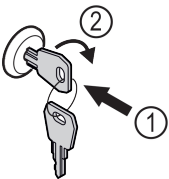

Fig. 82 Example illustration
- ▶ Insert key Fig. 82 (1).
- ▶ Turn key clockwise by 90° Fig. 82 (2).